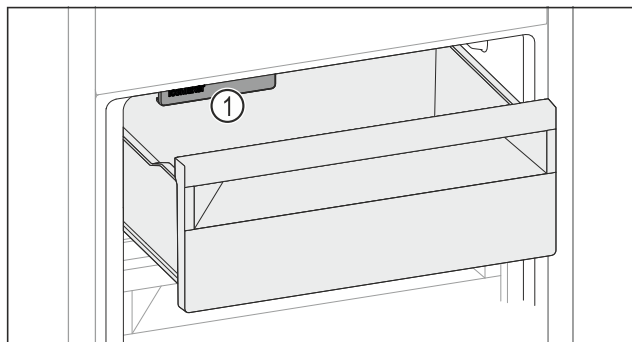

Fig. 170
- Watch out for the IceMaker Fig. 170 (1).